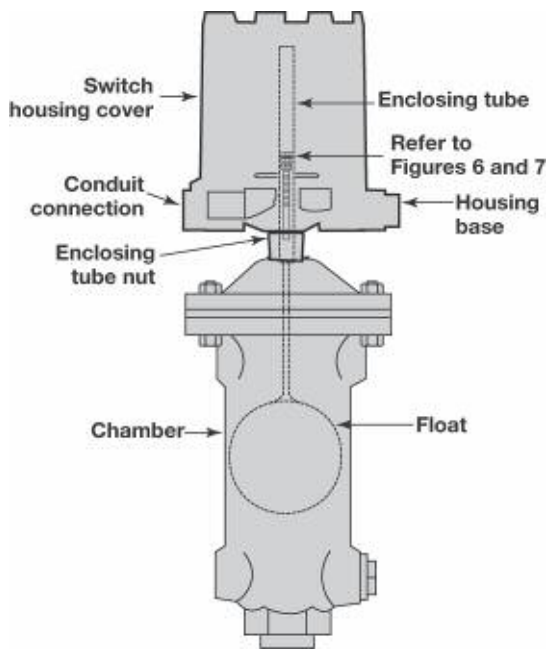

Figure 10
4. Disconnect power supply wires from switch mechanism. Pull wires out of conduit connection opening in housing base. Refer to Figure 10 on page 10.
8. Loosen enclosing tube nut with a $\frac{1}{16}$ " wrench. Unscrew enclosing tube counterclockwise (switch and housing base will rotate also), until it is free. Refer to Figure 10 on page 10.